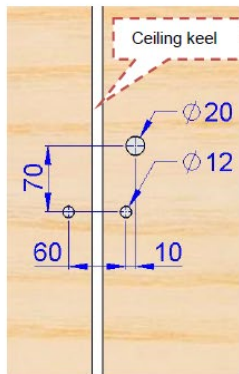
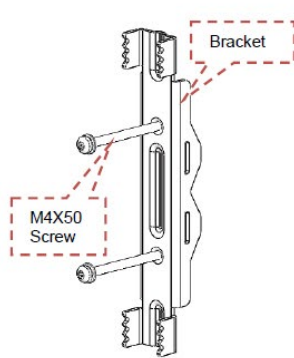
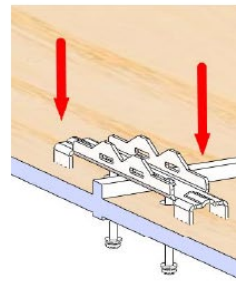
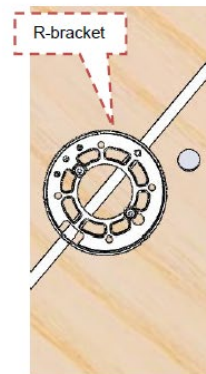

Figure 3-13
Figure 3-14
Figure 3-15
Figure 3-16
Step 1. Select an area for installation near ceiling keel. Drill three holes per (Figure 3-13). Route the screw(M4x50) thru the fastener (Figure 3-14). And the screw from top to bottom thru ceiling mounting hole (Figure 3-15). Place bracket over the screw (M4X50), Adjust the bracket to align the edge of the backplane with the edge of the ceiling. And then use torque screwdriver to tighten the screw to the 1.4N.m (Figure 3-16).